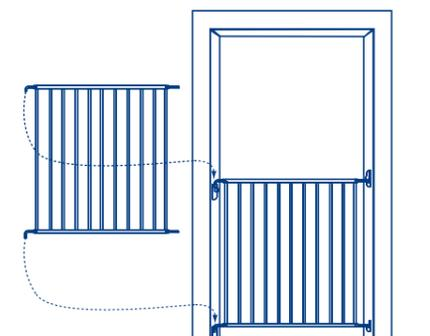

Fig. 8
- Make sure both of the curved hinge bolts must point down towards the floor. Insert the heads of the hinges into the hinge wall mounts. Push the button on the top hinge wall mount to fully seat and lock the hinge bolt in place. (Fig. 8)